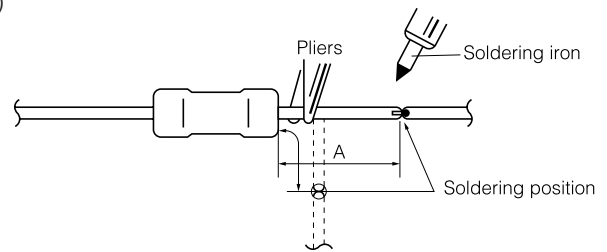

Fig.1
2) When using a soldering iron, release heat by using pliers or the like as shown in Fig. 1 to minimize the heat effect to the resistance element. If soldered for a long time at high temperature the performance may be deteriorated by heat, or the resistor may open. So, keep a safe distance over 6 mm from the body and solder within 3 seconds at 300 °C or lower temperature.